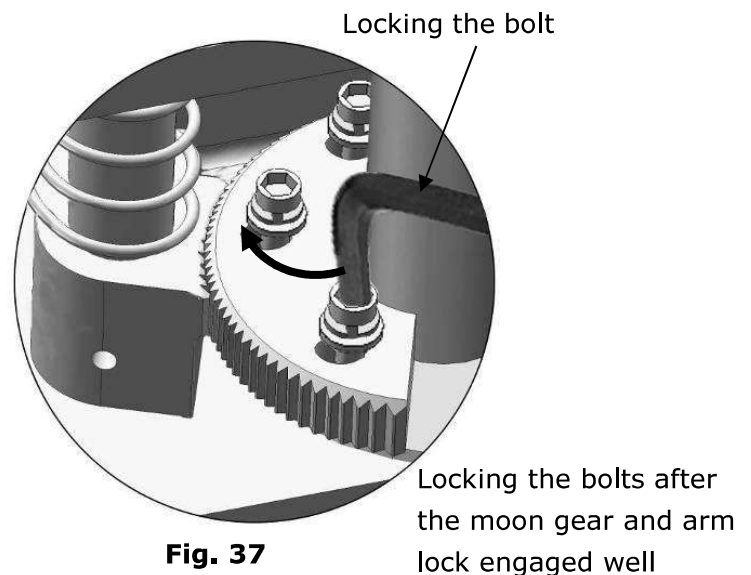

Fig. 37
4. Adjust moon gear and arm lock to make it to be meshed, then tighten the socket bolts of arm lock (See Fig.37).